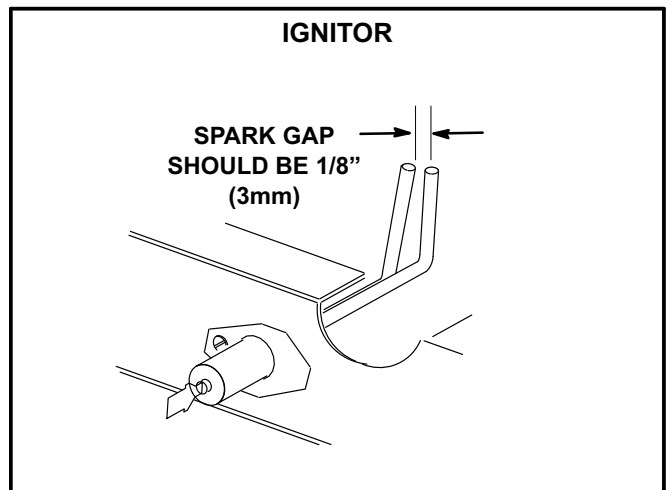

FIGURE 25
- 4- Locate the ignitor under the left burners. Check ignitor spark gap with appropriately sized twist drills or feeler gauges. See figure 25.